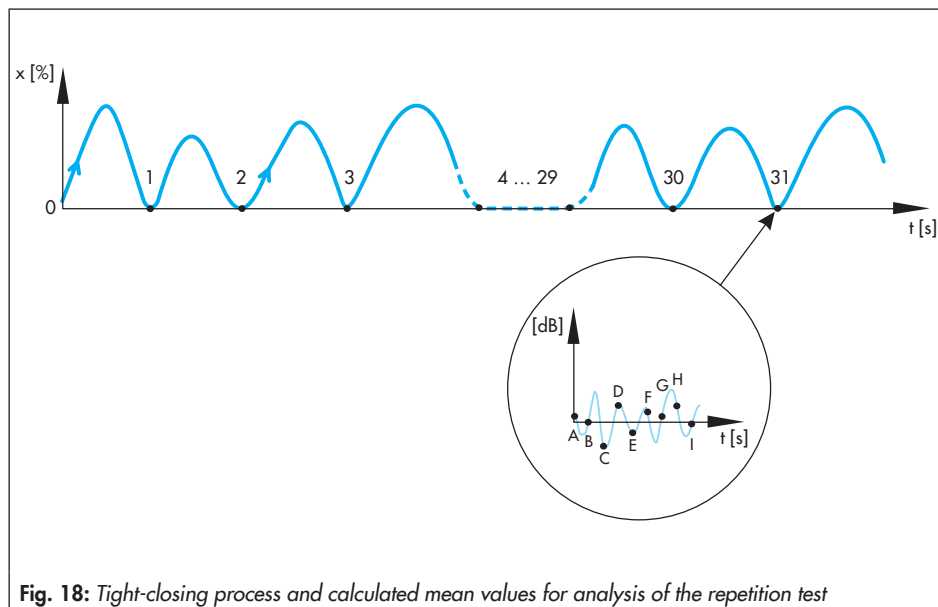

Fig. 18: Tight-closing process and calculated mean values for analysis of the repetition test
The mean value calculated from the current sound level and from the last four sound levels measured while the valve is tightly shut is used for monitoring (Fig. 18: Tight-closing event 31 and sound level E to I).
- **Average level at tight-closing:** The mean value calculated from all sound levels measured while the valve is tightly shut is used for monitoring (Fig. 18: Tight-closing event 31 and sound level A to I).
The mean value calculated from the last 30 sound levels measured during short-term monitoring (see ► Section 6.2) is used for monitoring (Fig. 18: Tight-closing event 2 to Tight-closing event 31 with all sound levels).
The mean value calculated from all the sound levels measured during long-term monitoring (see ► Section 6.3) is used for monitoring (Fig. 18: Tight-closing event 1 to Tight-closing event 31 with all sound levels).